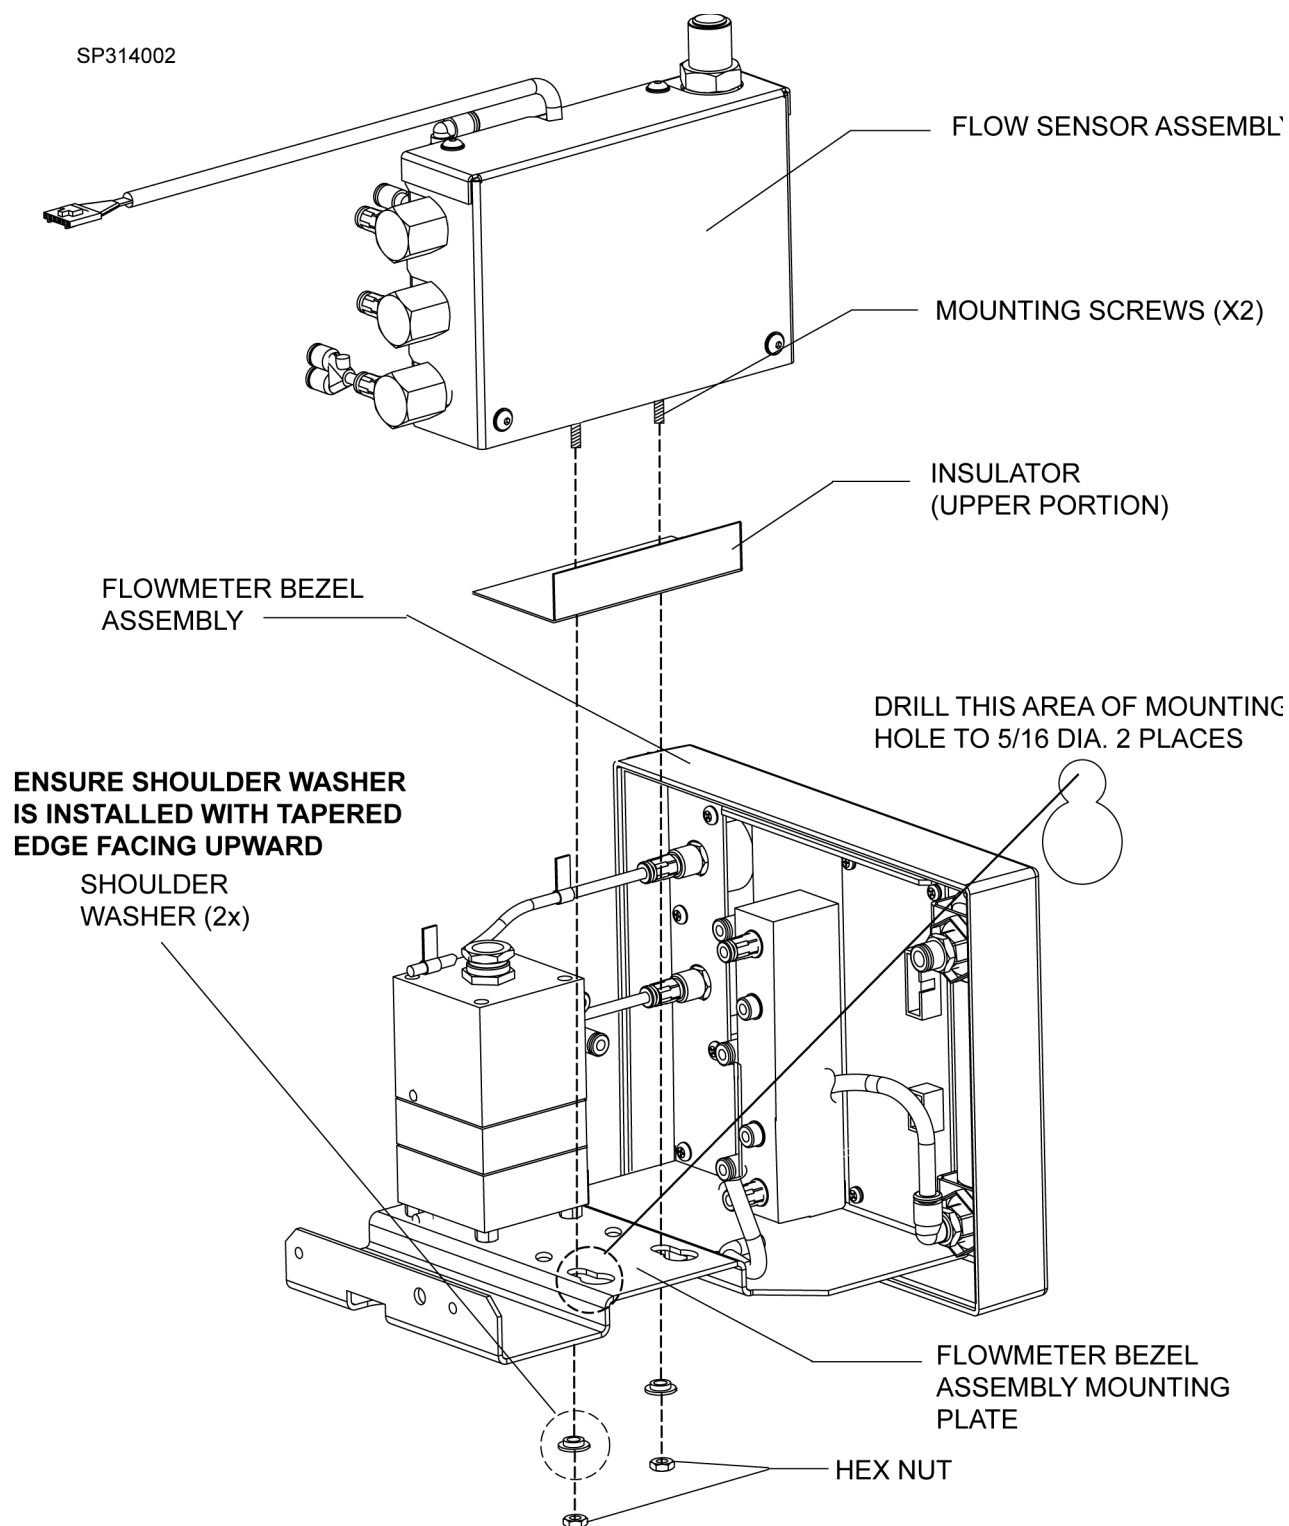

Fig. 5 Isolator Installation
1. Disassemble the Flow Sensor Assembly from the Flowmeter Bezel Assembly Mounting Plate by removing the two washers and two nuts located on the underside of the mounting plate. Discard the existing washers and nuts. Refer to Fig. 5.
4. Using a 5/16 drill bit, drill the two Flow Sensor Assembly mounting holes to 5/16 Dia. Refer to Fig. 5 for exact location.
6. Place the insulator provided in the kit between the Flowmeter Bezel Assembly Mounting Plate and the Flow Sensor Assembly. Position the insulator so that the hole pattern is aligned with the mounting screws located on the bottom of the Flow Sensor Assembly. Ensure that the upper portion of the insulator is located on the outside edge of the Flow Sensor Assembly. Refer to Fig. 5 for correct installation positioning.
Ensure that the shoulder washers are installed with the tapered edge in the upward position. Refer to Fig. 5 for an illustration showing proper orientation.
8. Install the supplied shoulder washers and hex nuts on the mounting screws through bottom of the Flowmeter Bezel Assembly Mounting Plate as shown in Fig. 5.